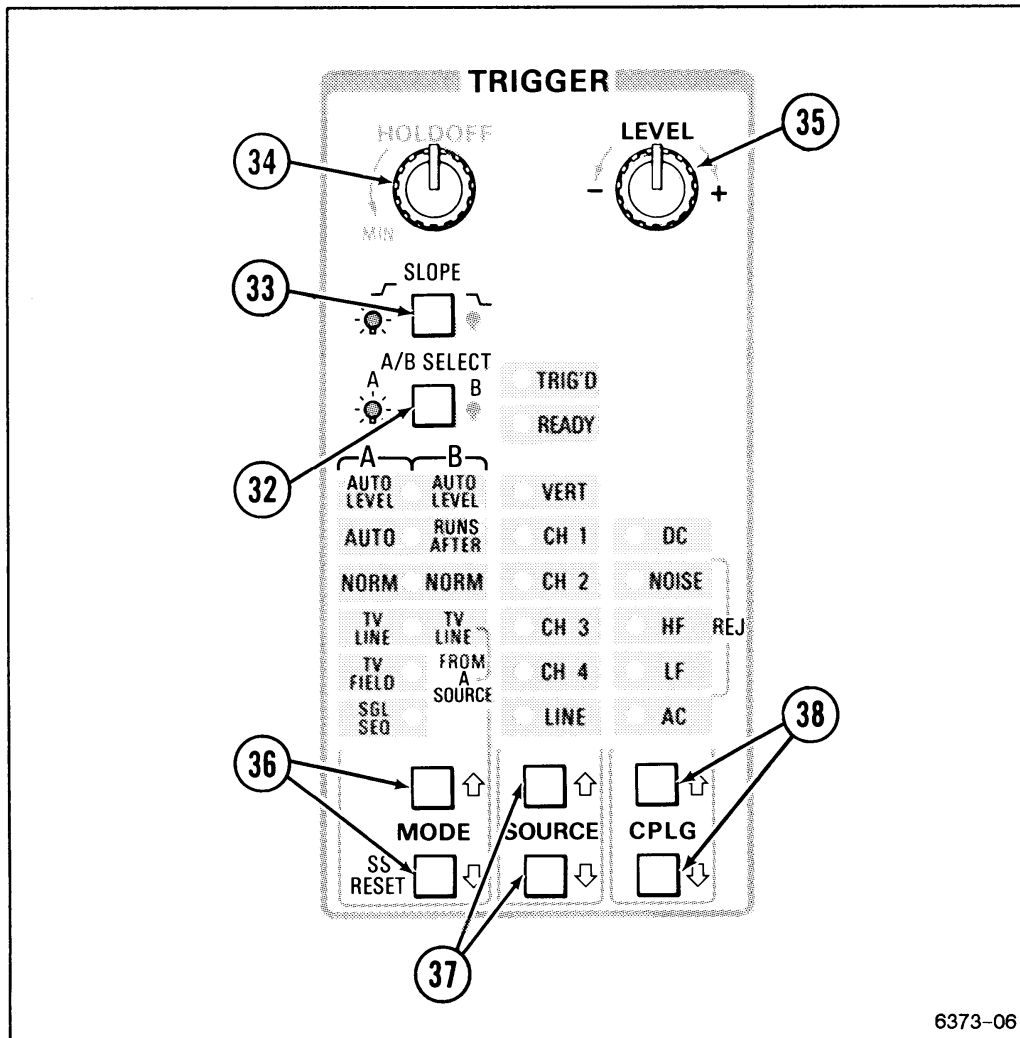

Figure 2-5. Trigger controls and indicators.
Refer to Figure 2-5 for location of items 32 through 38.
- ③② **A/B SELECT Button**—Directs the MODE, SOURCE, CPLG, SLOPE, and LEVEL controls and Trigger lights (TRIG'D and READY) to either the A or B Trigger system (A, when lit; B, when not lit).